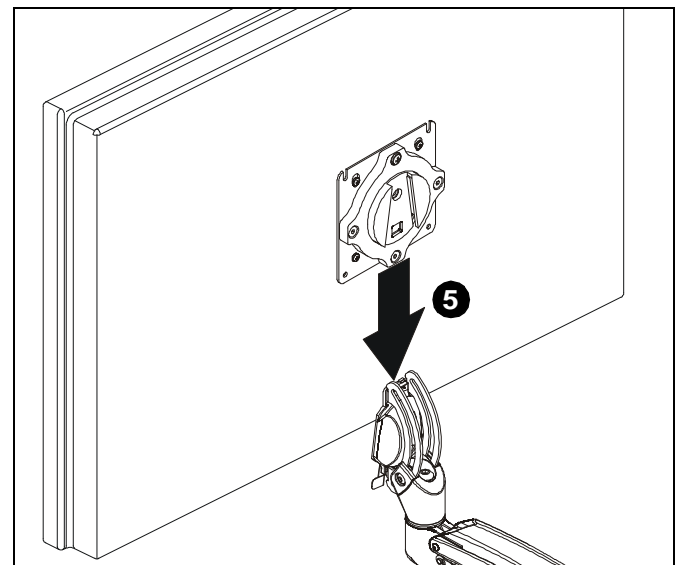

Figure 6
4. Position display with faceplate attached above mount. (See Figure 6)
5. Slide faceplate onto mounting head until quick release tab clicks into place. (See Figure 6)